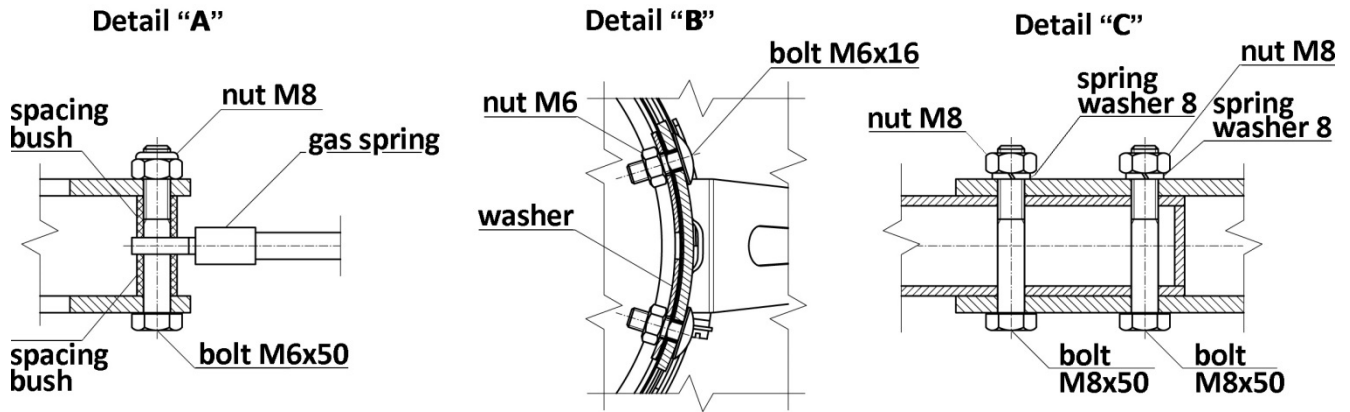

Fig. No.6 – Assembly instruction of the extraction arms type ERGO LUX-M;-K;-L;-D
5. Screw together the terminations of the gas spring with a plate of the lower joint – according to Fig. No.6 Detail "A" (see also Photo No.1).
7. Screw up the element of the hood joint, with the pipe – according to the information in Fig. No.6, Detail "B".